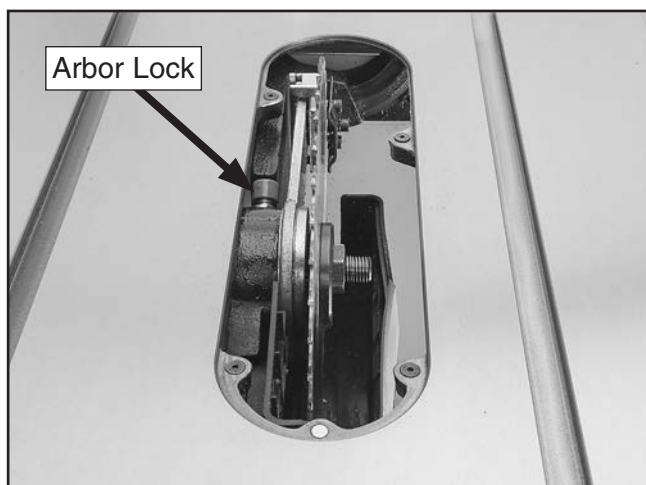

Figure 43. Location of arbor lock.
3. Push arbor lock (see **Figure 43**) in and turn blade until it locks in place.